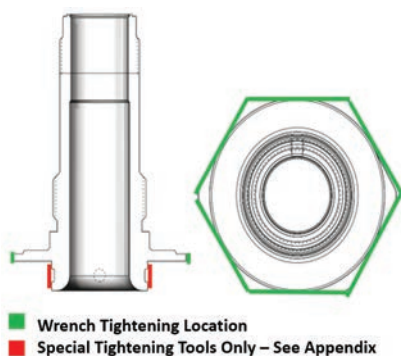

Figure 48: IS Nozzle Tightening Locations
- a. Tighten with wrench/socket to a maximum torque not to exceed that value listed in Table 10 at the wrench tightening location in Figure 48.
Tightening Tools Only location in Figure 48.
- b. Tighten to a maximum torque not to exceed that value listed in Table 10 with the use of the 2900 IS Torqueing Tool Insert per the drawing in Section XXIII. at the Special Tightening Tools Only location in Figure 48.